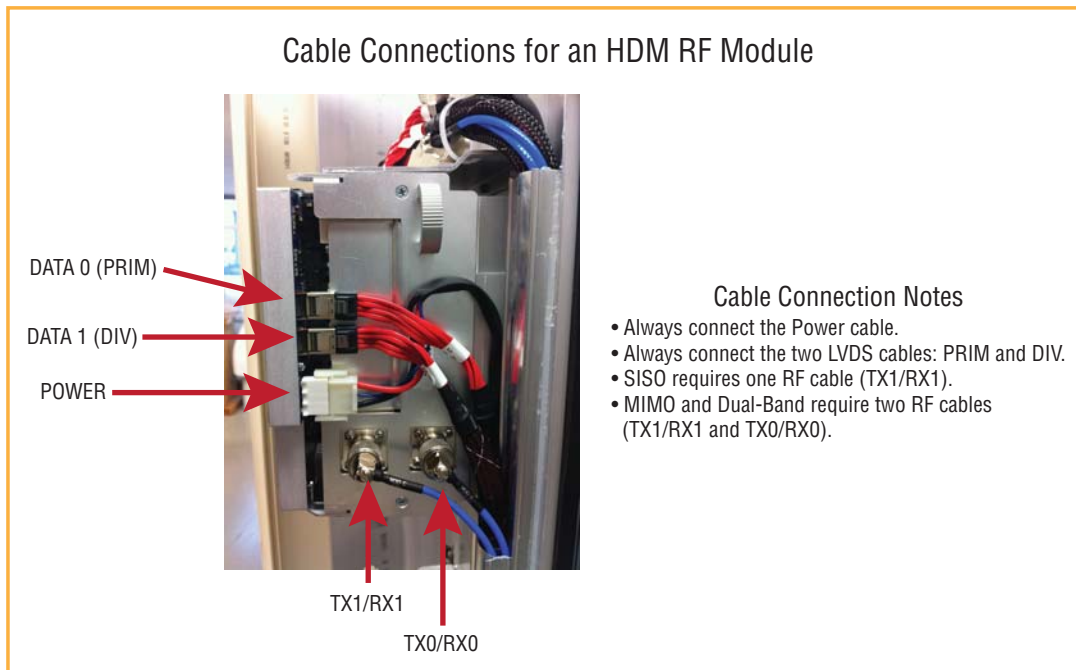

Figure 22. Cable Connections for HDM RF Modules
- HDM RF Module: Figure 22 on page 35